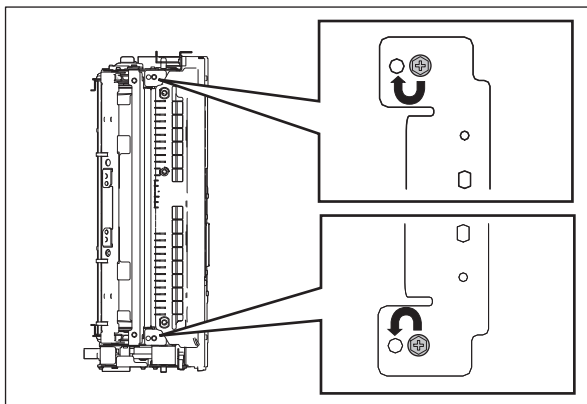

Fig.8-104
1. Adjust the entrance guide of the fuser unit and check if the paper wrinkle disappears. (Fig.8-104)